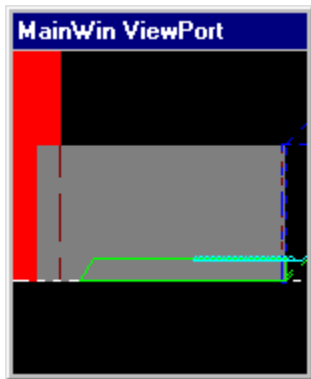

Fig. 4
- ◆ Press **F2** to redraw the entire source program. [Fig. 4]